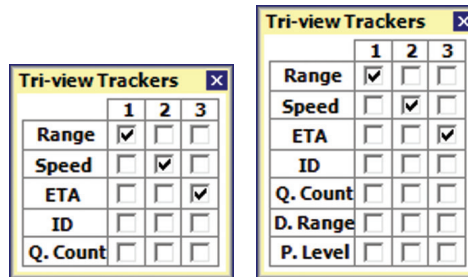

Figure 8.17 – Tri-view Trackers for Advance (left) and Advance Extended Range (right)
Configure the tri-view display by clicking and holding on the roadway display selector while the tri-view mode is active. The desired modes can then be selected on the Tri-view Trackers screen (see Figure 8.17).
Any mode can be assigned to display on the left (1), middle (2) or right (3) side of the tracker display (see Figure 8.17 and 8.18). A mode cannot be displayed in more than one location and removing a check mark will disable the corresponding column.